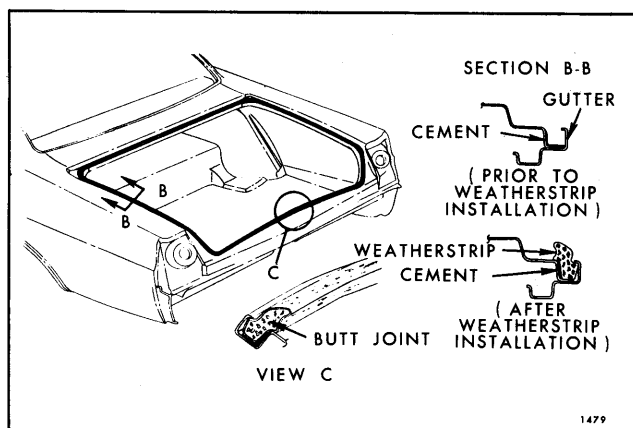

Fig. 8-26—Rear Compartment Weatherstrip Assembly
1. Separate "butt" ends of weatherstrip at rear compartment opening (Fig. 8-26).